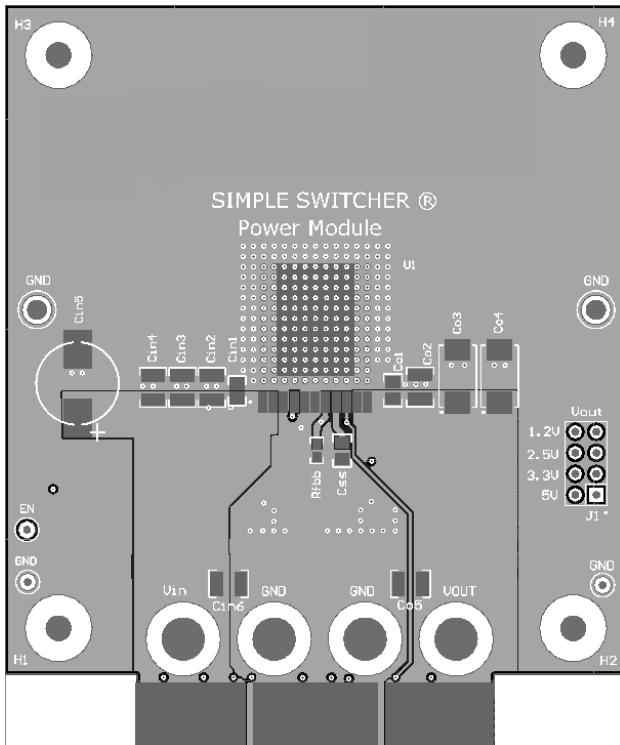

**Figure 53. Critical Current Loops to Minimize**
From an EMI reduction standpoint, it is imperative to minimize the high  $di/dt$  paths during PCB layout as shown in Figure 53. The high current loops that do not overlap have high  $di/dt$  content that will cause observable high frequency noise on the output pin if the input capacitor ( $C_{IN}$ ) is placed at a distance away from the LMZ12008. Therefore place  $C_{IN}$  as close as possible to the LMZ12008 VIN and PGND exposed pad. This will minimize the high  $di/dt$  area and reduce radiated EMI. Additionally, grounding for both the input and output capacitor must consist of a localized top side plane that connects to the PGND exposed pad (EP).